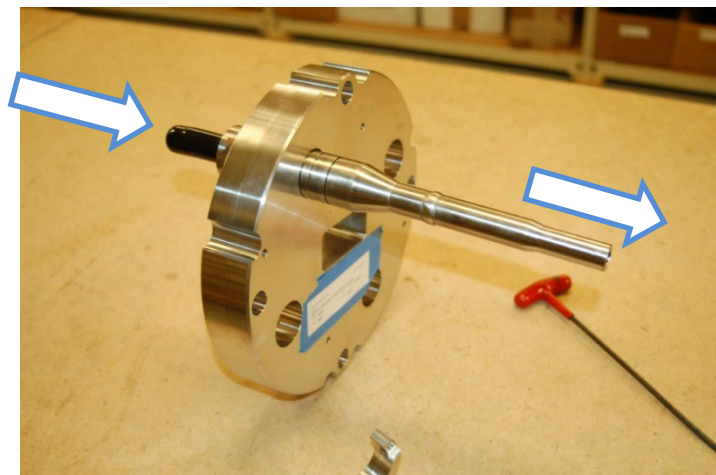

Figure 73: Coupler Assembly Step 2
26.5.7 Insert the coupler through the CIMV side of the junction plate. See Figure 73.